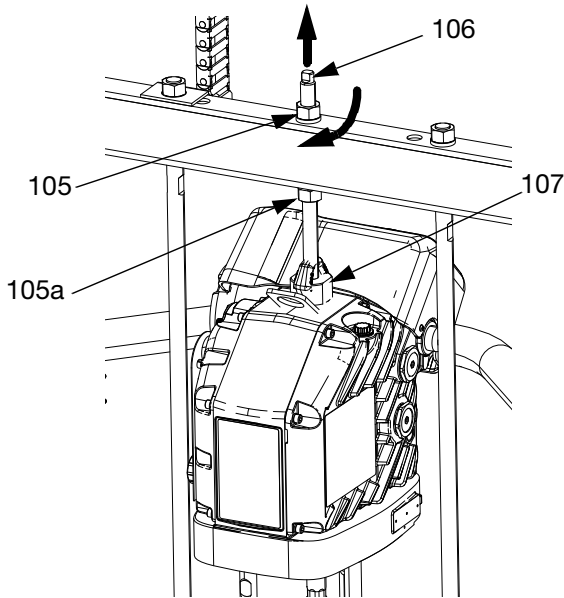

FIG. 45
1. Insert Displacement Pump (AC) on Platen (AD). Follow **Connect Platen** steps on page 50.
3. Connect Driver (AB):
- a. Use wrench on nut (105) on top of Ram bar to lower Driver (AB) onto Displacement Pump (AC). See FIG. 45 on page 51. Thread nut (105) up and tighten it under Ram bar. Tighten nut (105) below the crossbar to 25 ft-lb (34 N•m) maximum.